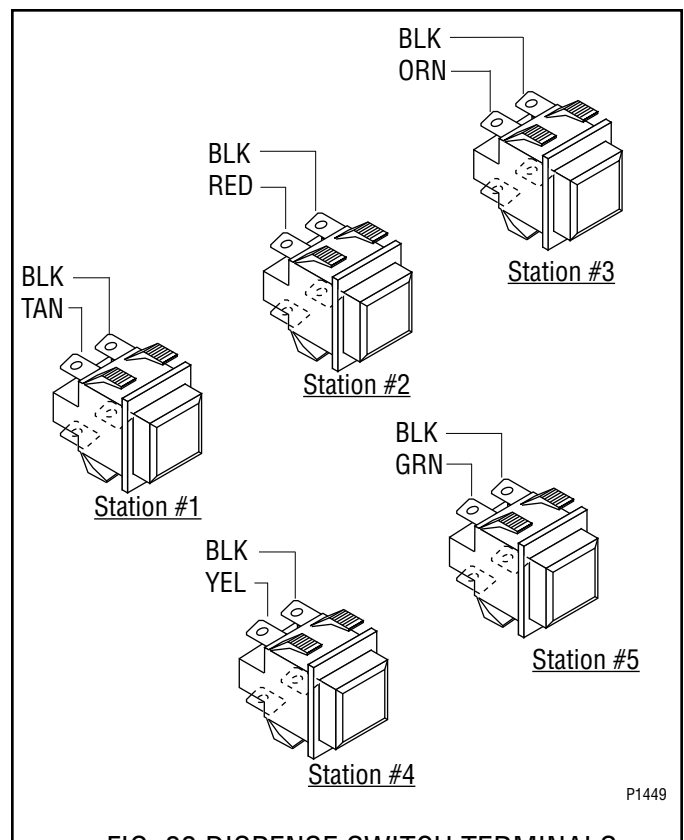

FIG. 22 DISPENSE SWITCH TERMINALS
8. Refer to Fig. 22 when reinstalling wires.